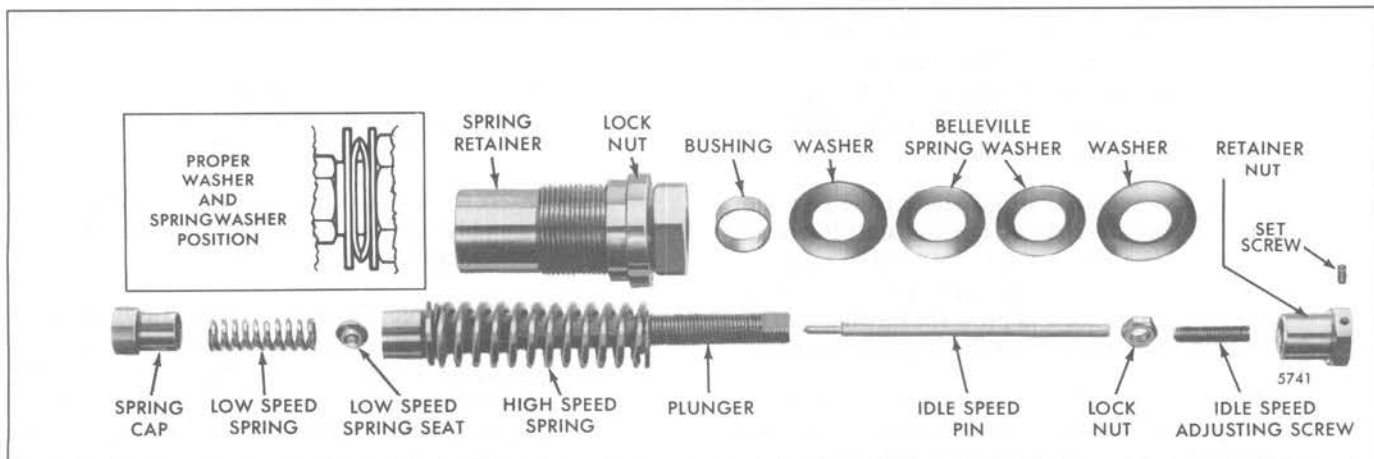

Fig. 23 - High and Low-Speed Springs and Plunger Details including Belleville Washers (Fuel Squeezer Engines)
- e. For Fuel Squeezer engines, install the bushing in the end of the high–speed spring retainer (if removed) and align the two flat washers and two Belleville spring washers (Fig. 23). Then, install the set screw in the Belleville spring retainer nut and thread the retainer nut onto the high–speed plunger.